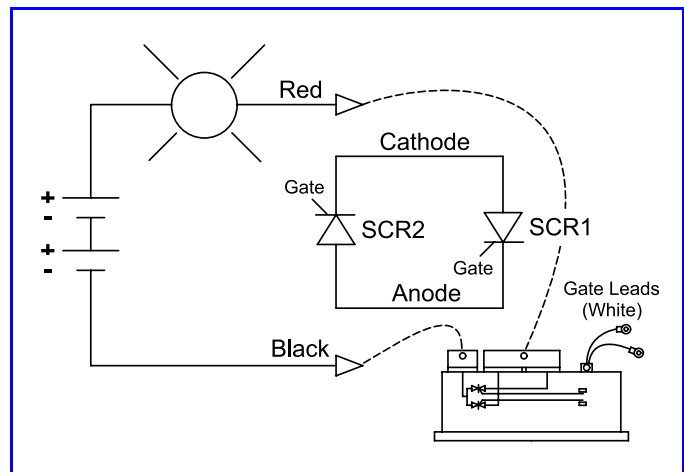

Figure 22 Testing SCR2
6. Reverse the leads as noted below in order to test SCR2. See **Figure 22**.